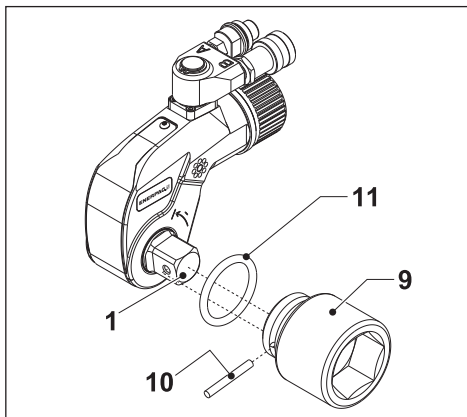

Fig. 4
- For tightening bolts, install the drive shaft in the location shown in Figure 4.
#### 3.4.1 To Install a Hex Socket (Fig. 4)
#### 3.4.2 To Remove a Hex Socket (Fig. 4)